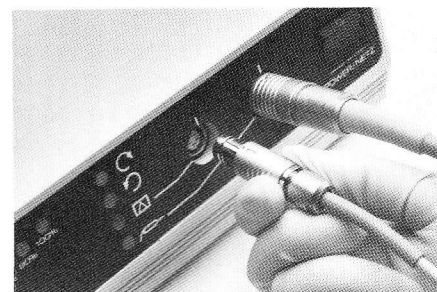

Figure 10
1. Align connector orientation marks. See Figure 10.